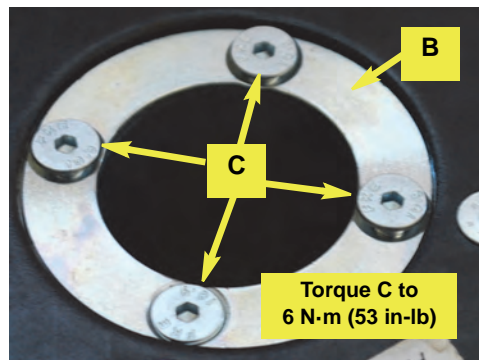

Figure 1b: Shaft adapter secured
- b. Using the four countersunk screws **C**, secure the shaft adapter **B** in the steering wheel. Torque the screws to **6 N·m (53 in-lb)** (Figure 1b).